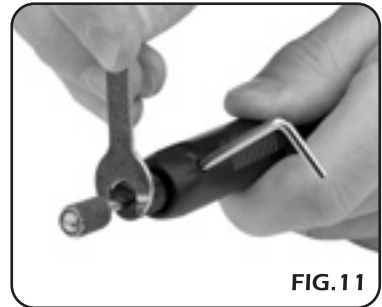

FIG.11
3. Insert pin (R) into the location hole (S) to prevent chuck from spinning. Open chuck jaws, insert chosen tool (Fig. 11) and reverse process to lock tool in place.